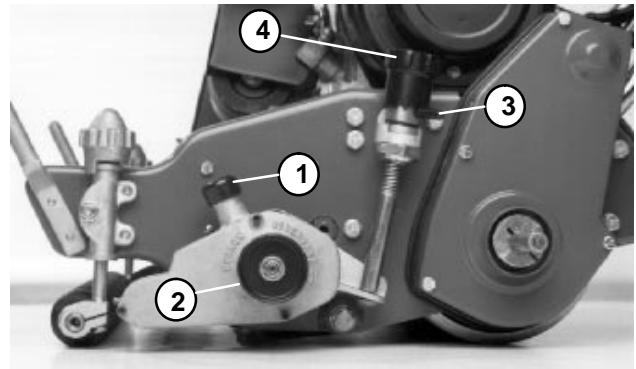
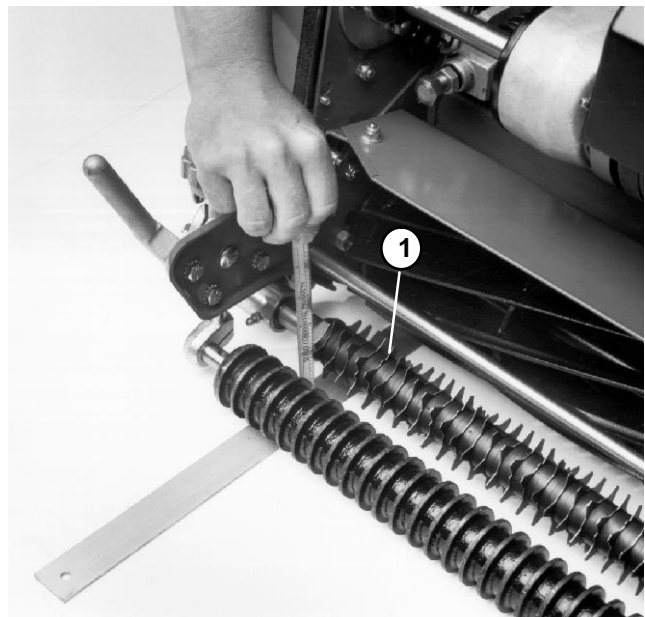

Figure 2
Figure 3
3. Hold clutch snubber down and disengage the clutch by turning the clutch knob clockwise. Use quick-up levers on both sides of the mower to lower the grooming reel into the grooming position (Fig. 2).
4. .On one end of the grooming reel, measure the distance from the lowest tip of the groomer blade to the working surface (Fig. 3). Lift and turn micro adjustment knob to raise or lower the tip (Fig. 2). Each notch on the micro adjustment knob is approximately equal to 0.007 inch (0.178 mm).